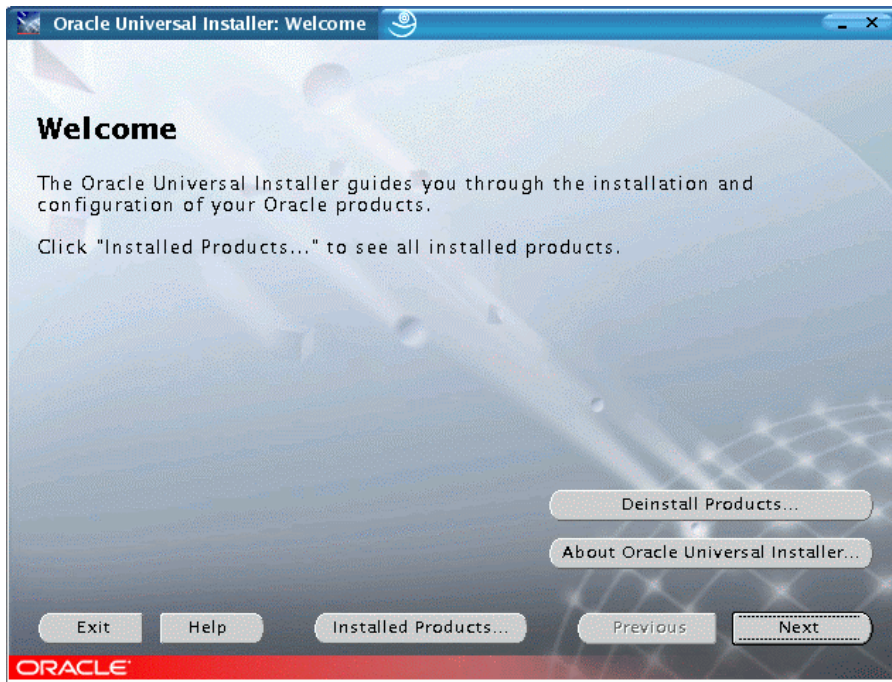

Figure 27. Welcome Screen
- The Welcome screen in Figure 27 is displayed. Click **Next** to continue.